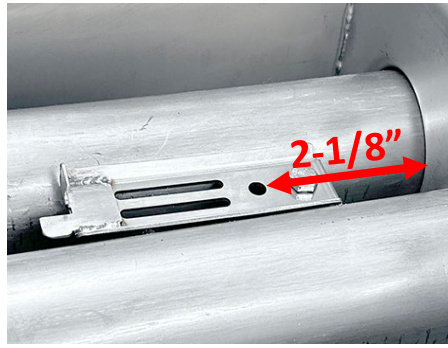

Figure 6
9. Line up the assembly with the probe opening 2-1/8" from the front of the frypot and the probe opening at the bottom of the frypot. Using a flashlight may help align the bracket (see Figures 6 & 7).